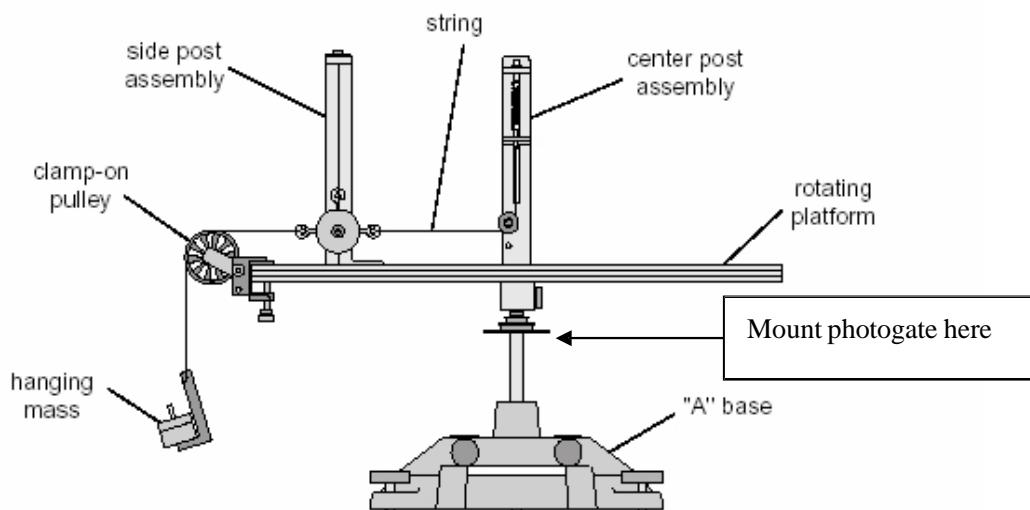

Fig. 2.1 Centripetal Force Apparatus
1. The centripetal force and the mass of the hanging object will be held constant for this part of the experiment. Weigh the object and record its mass in Table 2.1. Hang the 100g object from the side post and connect the string from the spring to the object. The string must pass under the pulley on the counter post. See Fig. 2.1